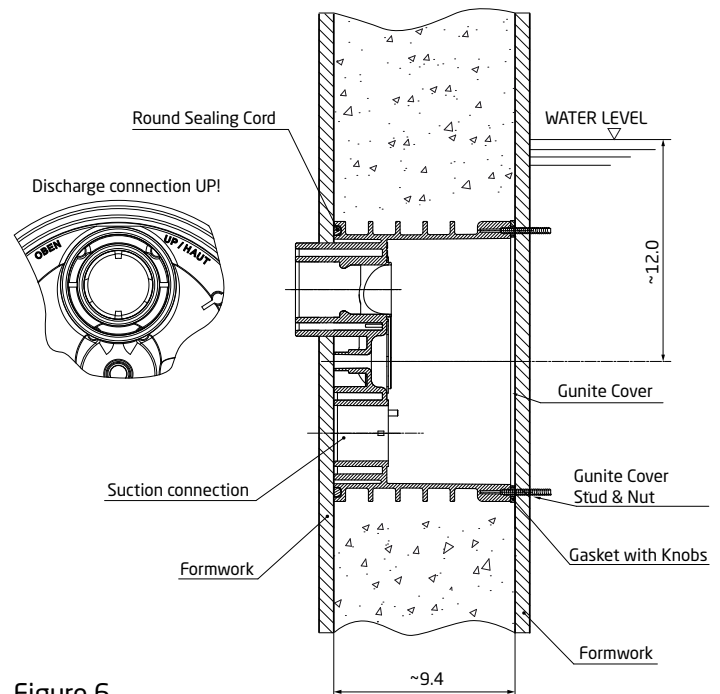

Figure 6
- Place the jet housing between the steel rebar with the back of the jet housing against the hole in the outer wall formwork. Jet housing location is very important (See Figure 6).
- Mount the gunite cover to the front of the jet housing using the four (4) M8 x 80mm studs (part# 31), four (4) M8 washers (part# 32) and four (4) M8 nuts (part# 33). Tape the edge of the gunite cover around the entire jet housing to keep gunite out of threaded inserts and out of the jet housing.
- Place the jet housing between the steel rebar. Jet housing location is very important (See Figure 6).